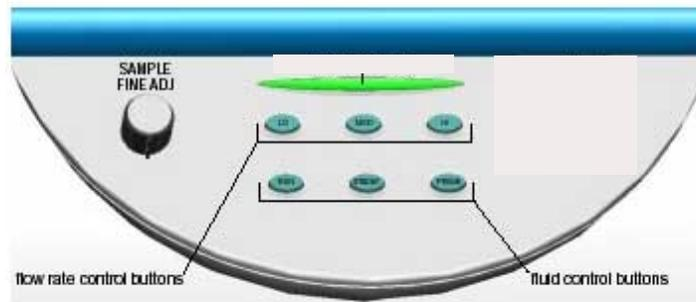

Figure 1-f
- 1 Briefly describe each of the fluid control buttons shown in Figure 1-f.